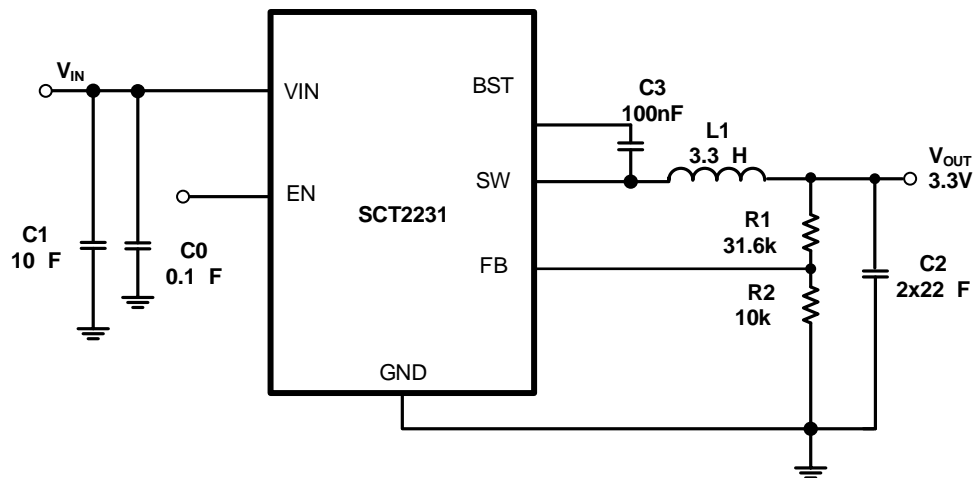

Figure 8. 12V Input, 3.3V/3A Output
The SCT2231 features external programmable output voltage by using a resistor divider network R1 and R2 as shown in the typical application circuit Figure 8. Use equation (7) to calculate the resistor divider values.